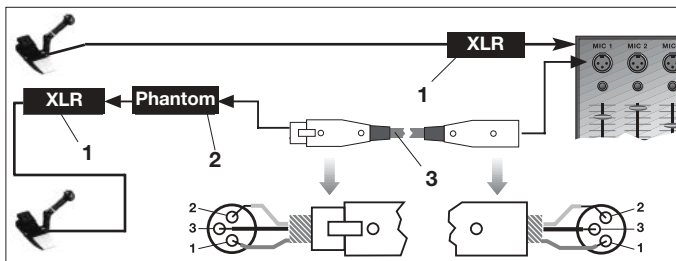

Fig. 1: Connecting to a balanced input.
Refer to fig. 1.
- Refer to fig. 1.
3. **If your mixer provides no phantom power:** Connect the phantom power adapter (1) to an optional AKG phantom power supply (2) (N 62 E, N 66 E, B 18, B 15) and use an XLR cable (3) (e.g., an optional MK 9/10 from AKG) to connect